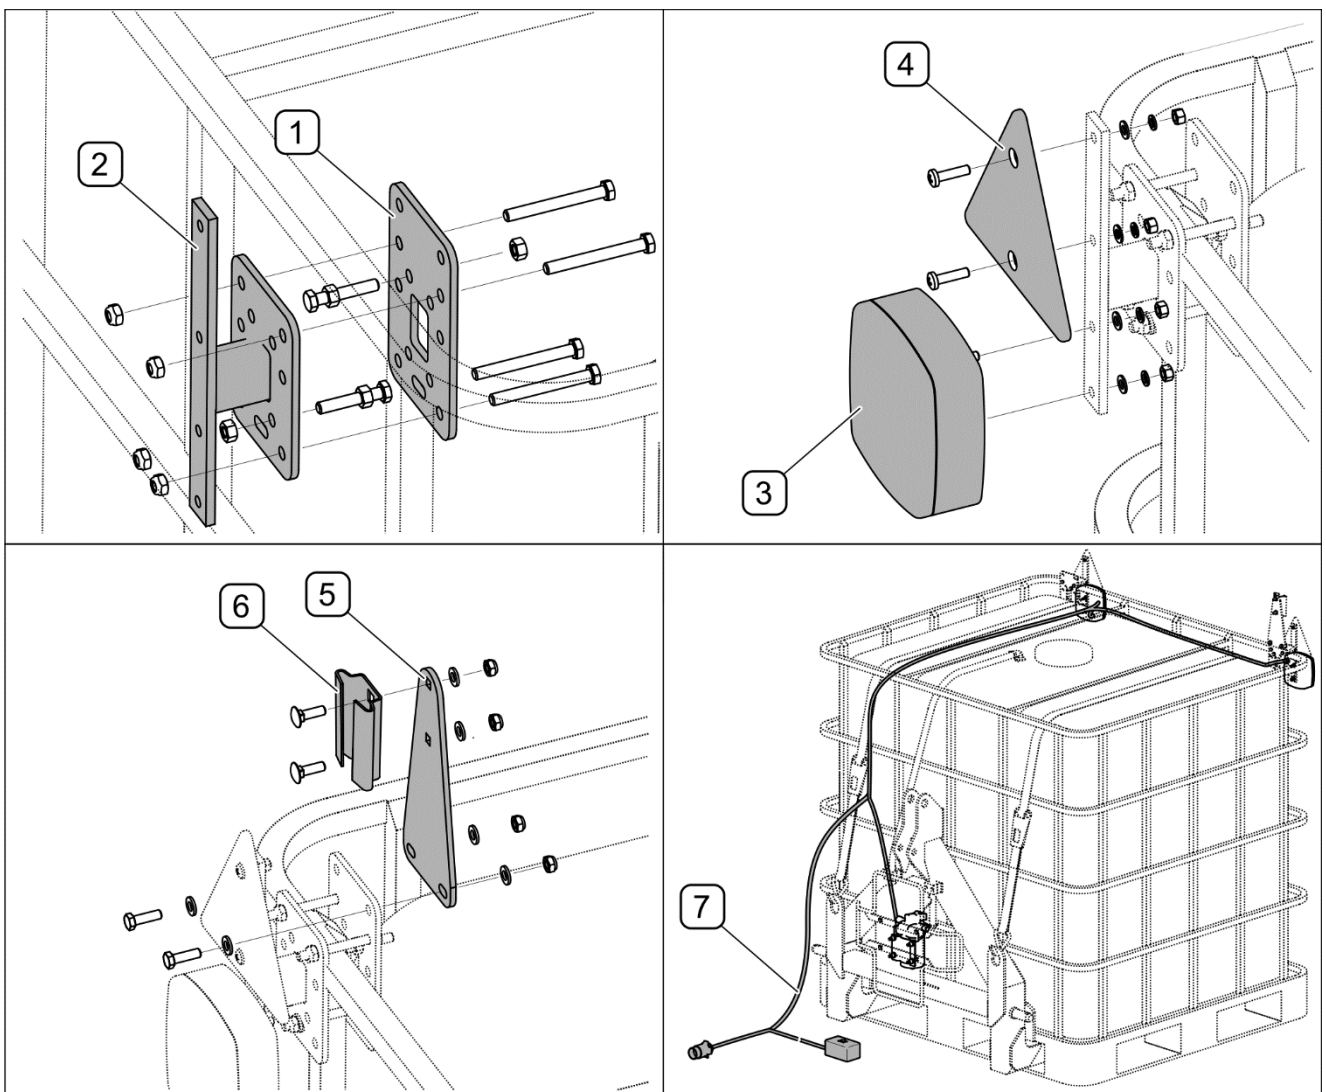

FIGURE 4.6 Installation of additional lighting
PRONAR R1000 tank can be additionally equipped with lighting mounted symmetrically on the frame at the rear of the tank (FIGURE 4.6). The additional lighting consists of two plates (1), brackets (2), lamps (3), reflective warning triangles (4) and fasteners. Additional bracket (5) and holder (6) for the slow-moving vehicle warning sign are attached to the left bracket of the lamp. Electrical wiring harness (7) ended with a 7-pole socket plug should be connected to the right lamp and the left lamp and to the electric water pump.